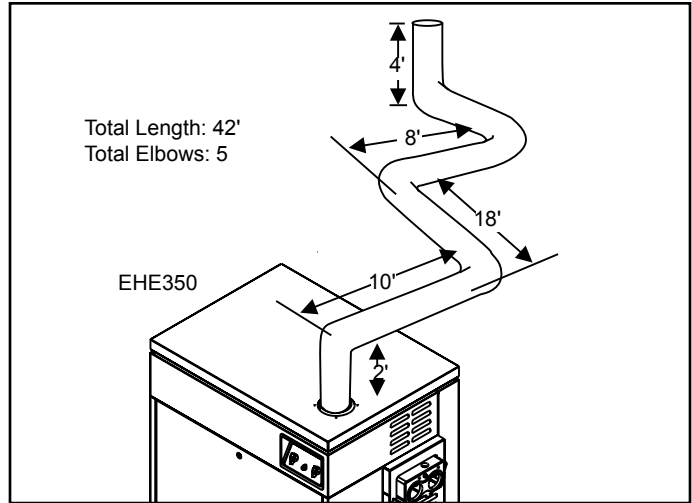

Figure 6. "One-pipe" installation.
1. A Model 350 heater is to be installed in a one-pipe system, see Figure 6. The vent pipe is 42 feet long and has five (5) elbows. Per Table 3, 5" piping must be used. (Only 16 feet of 4" vent pipe would be allowable.)